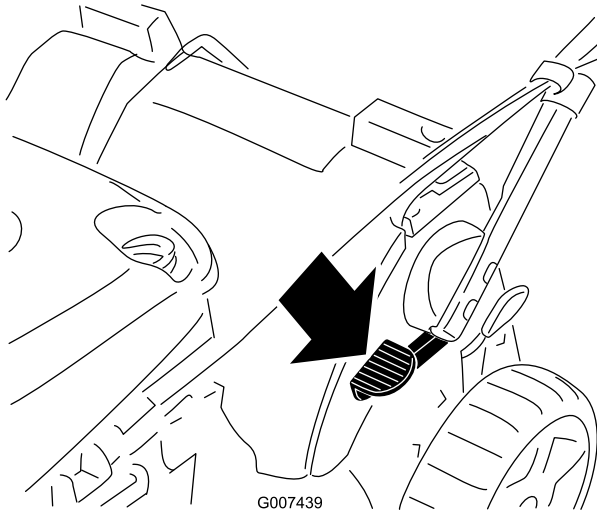

Figure 53
1. Step on the foot pedal and hold it down (Figure 53).